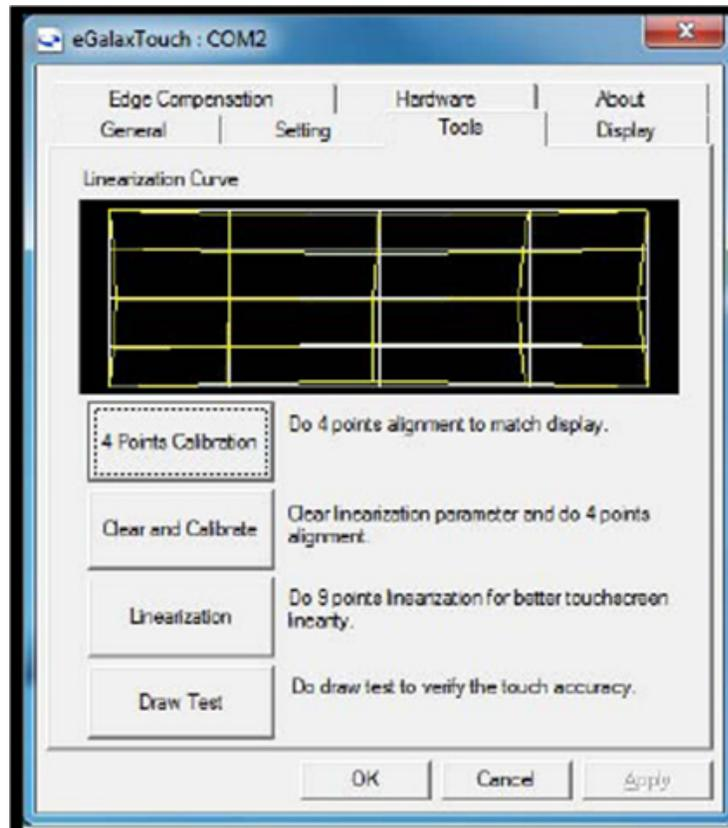

Figure 3-9 Calibrating eGalax Touchscreen Software
1. Click on **Start, Programs, eGalax Touch, Configure Utility** and then select the **Tools** tab (Figure 3-9).
3. Wait to the end of the 15 second countdown to see the four points, one at each corner (Figure 3-10). Click on **OK** in the **Configure Utility** (Figure 3-9) to complete the calibration.